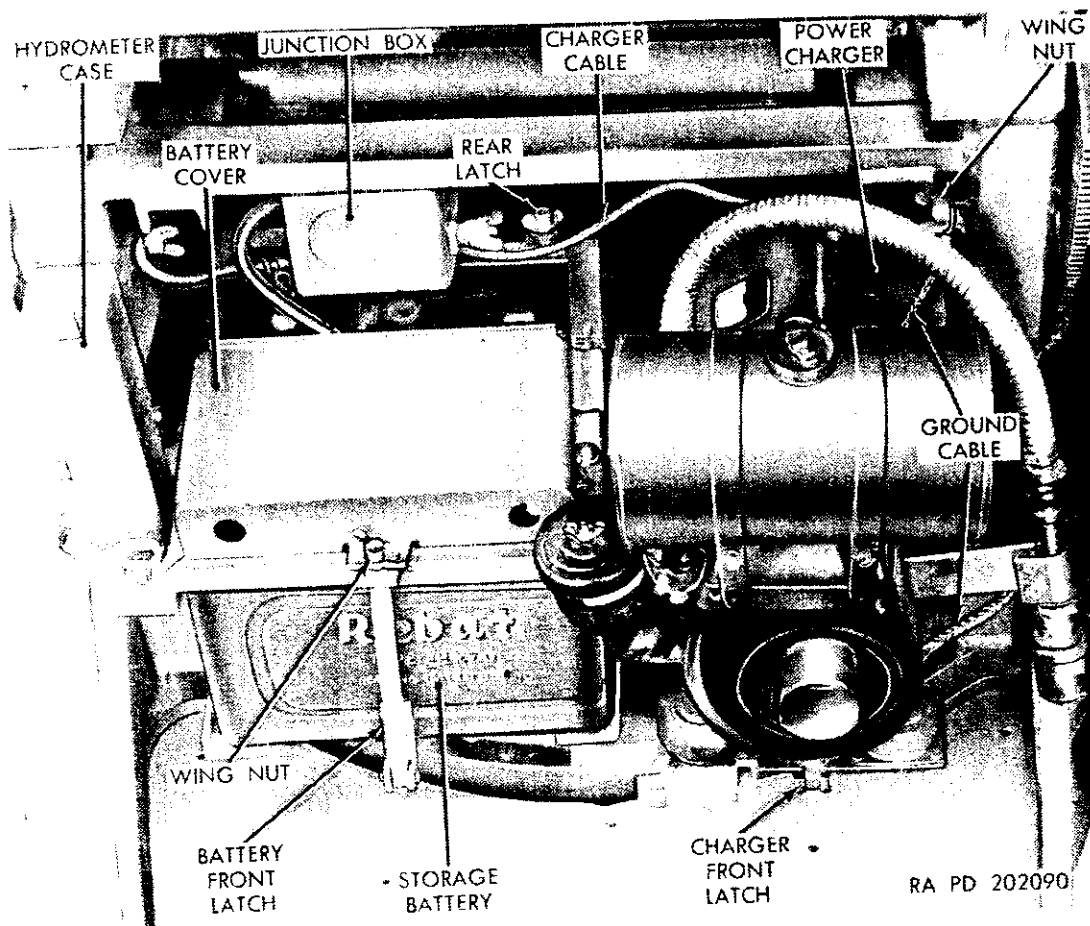
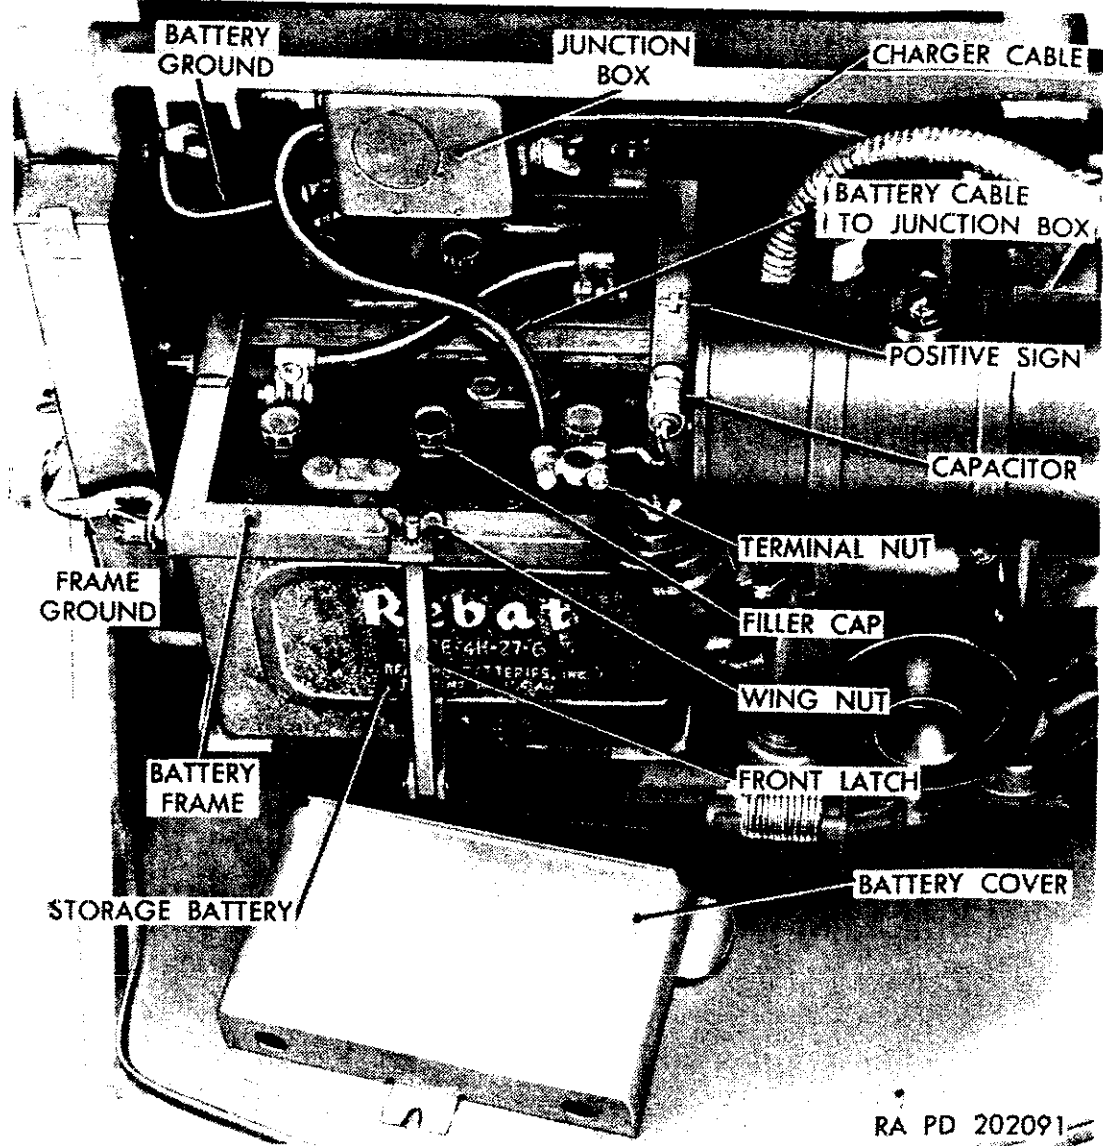

Figure 46. Battery and power charger
Figure 47. Battery and cables.
Two batteries are used to operate the M45 series mounts. The batteries are located in the rear of the mount alongside the power charger (figs. 46, 47, and 48) and store electrical energy generated by the power charger. A hydrometer case (fig. 46), installed on all mounts, is located on the left rear post of the main framework and houses the hydrometer which is used to determine the specific gravity of the battery fluid (electrolyte).
- (1) Remove battery cover by loosening the wing nut (fig. 46) on the front battery latch and swing the front latch down. Push the two remaining latches from connections, and remove the battery frame (fig. 47).
- (2) Remove terminal of battery cable lead to junction box by loosening terminal nut.
- (3) Loosen terminal nuts and remove cables from batteries in like manner.
(1) To test battery fluid, remove hydrometer from case (fig. 46). Remove filler cap (fig. 47) and insert hydrometer to each cell. Make temperature correction as indicated in figure 49. If hydrometer reading is below 1,240, the battery should be brought up to full charge. When fully charged, the hydrometer reading should be between 1,240 and 1,280.
A gasoline engine driven power charger located in the rear of the mount (figs. 46 and 48) is used to charge two 6-volt storage batteries of the lead-acid type. The carburetor assembly (fig. 50) on the power charger is of the gravity type, and the gasoline supply is regulated by a needle valve. The throttle is automatically controlled by a governor. The ignition is produced by a spark from the magneto and is sent into the motor cylinder through the ignition cable and spark plug. The generator assembly, which is mounted on a tapered extension of the motor crankshaft, acts as the electric starter. However, the charger can also be started manually. The generator assembly of the power charger houses the switch, ammeter, automatic breaker, and all the wiring. The circuit breaker protects the battery against discharge back through the generator. Power chargers D73846 (fig. 50), 7062284 (fig. 51) and 7386579 (fig. 52) are authorized for replacement and may be used interchangeably. Replacement procedure is identical for these chargers.
#### *a. Removal (fig. 46).*
- (4) Swing front latch (fig. 46) down and out of the way and slide the power charger out of the channels. Grasp the carrying handle and remove the charger.